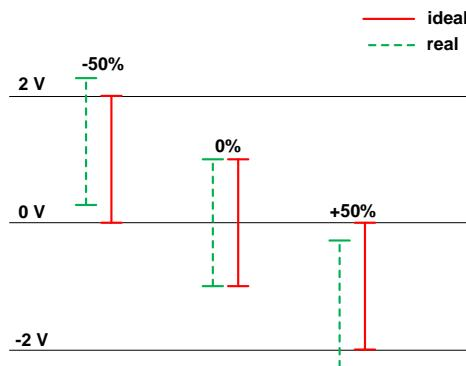

Fig. 7.7: Input signal DC offset adjustment description
- “**DC Offset**” **box**: sets the value of the DC Offset applied to the channel, expressed as the percentage of the Full Scale Range. Allowed values range between -50% (Full negative) and +50% (Full Positive). The DC Offset is a DC value added to the input signal by the input stage of the Digitizer in order to fit the signal dynamic range to the ADC input dynamics. Theoretically, the value of 0 (DC Offset = “0”) means that the input pulse DC level is set at half of the ADC dynamics (e.g. 2048 counts for the 720 series). The value of “50” (DC Offset = “50”) sets the DC level at the lower dynamics limit (i.e. 0 counts), while the value of “-50” (DC Offset = “-50”) sets the DC level at the upper dynamics boundary (i.e. 4095). The real DC offset adjustment implemented in the DPP-CI firmware is shown in **Fig. 7.7**: in order to preserve from saturation the input signals near the dynamics boundaries, setting the DC offset to -50 or +50 puts the signal baseline respectively a step up the upper boundary and a step under the lower boundary.